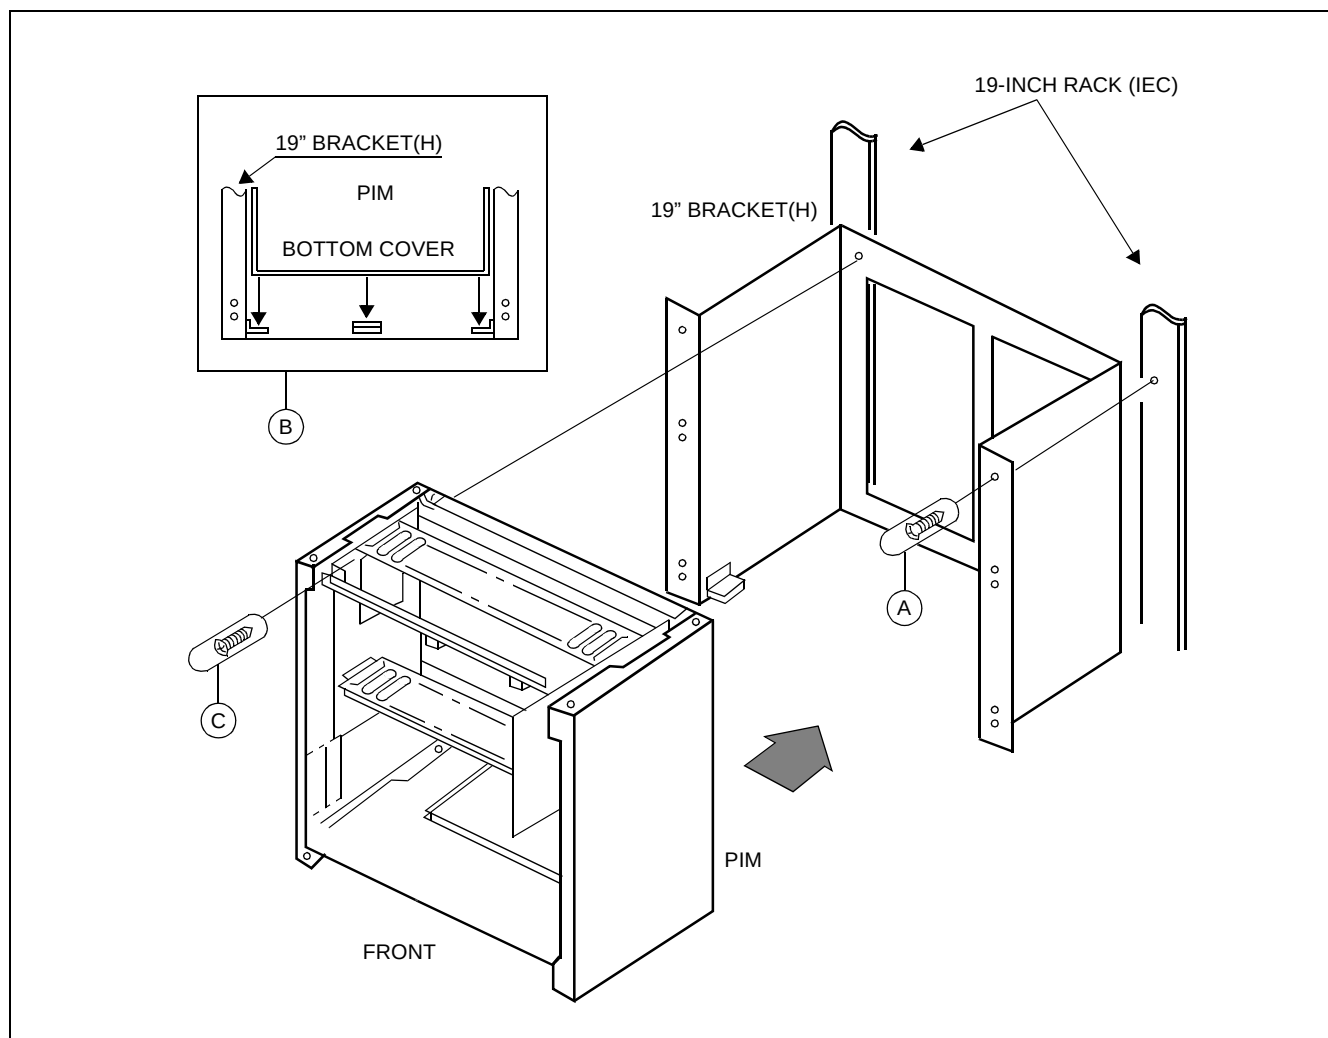

Figure 003-5 Mounting PIM to 19-Inch Rack
- (3) Secure the 19" BRACKET (H) to the 19-inch Rack as shown in Figure 003-5 (A).
- (4) Mount the PIM on the 19" BRACKET (H) as shown in Figure 003-5 (B).
Then, secure the PIM to the 19" BRACKET (H) as shown in Figure 003-5 (C).